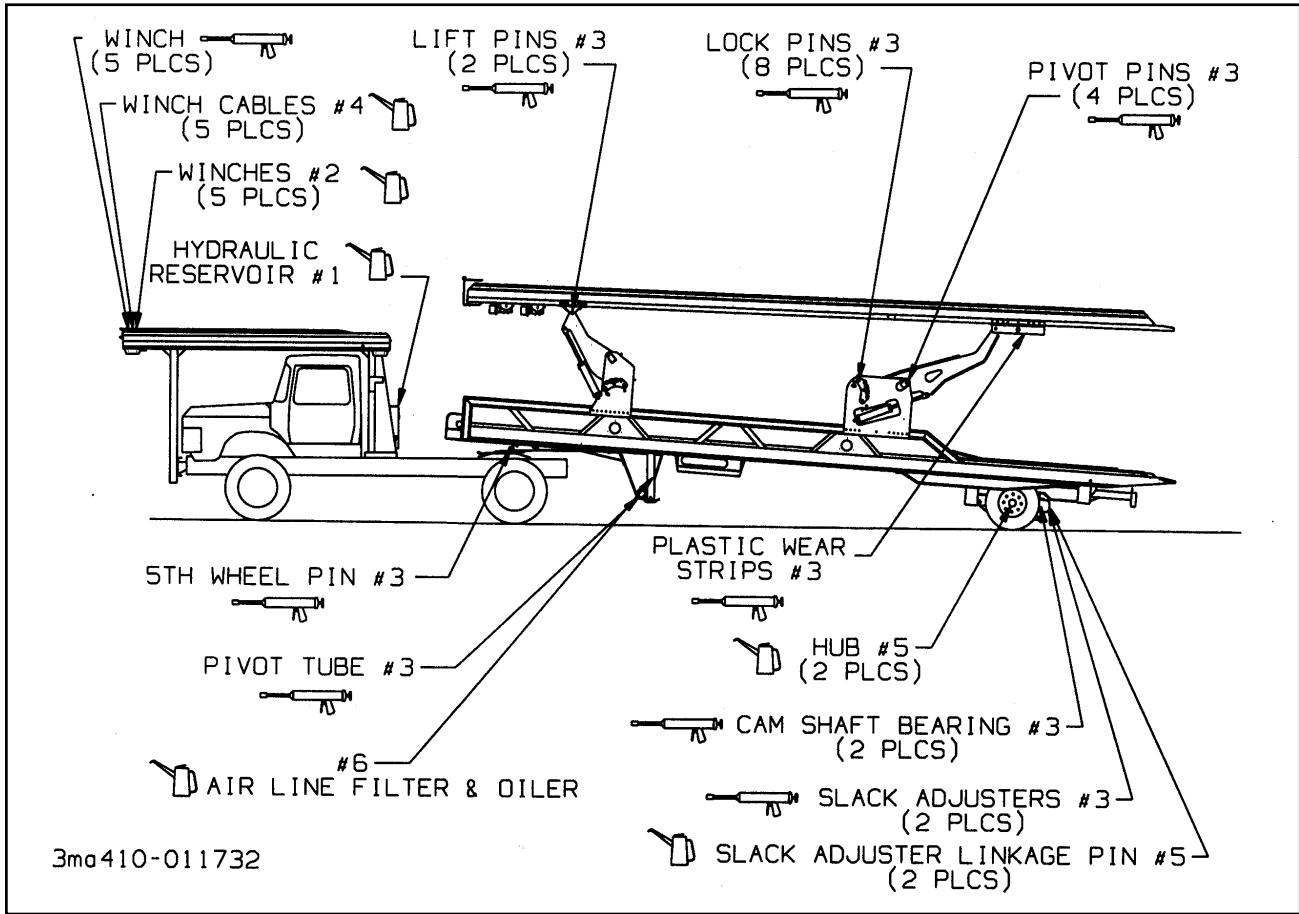

Figure 4-1 Lubrication Points
Figure 4-1 and Table 4-1 details lubrication points and intervals, method of application, and lubricant required, and illustrates the location of each part to be lubricated. During inspections of the semitrailer, if lubricants are found to be fouled with dirt or sand, those parts should be cleaned with paint thinner, dried, and relubricated immediately. Dirt in a lubricant forms an abrasive compound that will wear parts rapidly.
- b. Clean the sliding surfaces with solvent or mineral spirits every six months or more frequently if exposed to extreme dirt or weather conditions. The slide wear strips are impregnated with a special lubricant, however, additional lubrication may be required to prevent chattering or squealing. **See Lubrication Points and Specifications in Figure 4-1 and Table 4-1.**